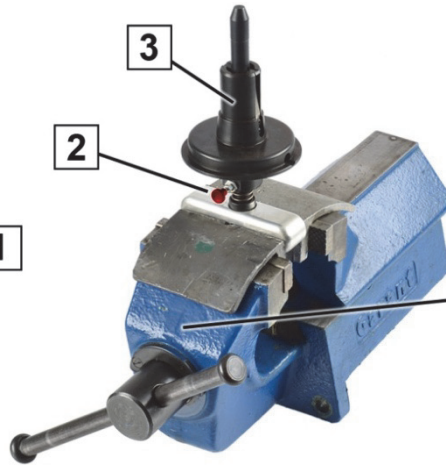

Fig. 2: Place special tool in vise
2. Fix the special tool (3) in the vise (5) (Fig. 2).